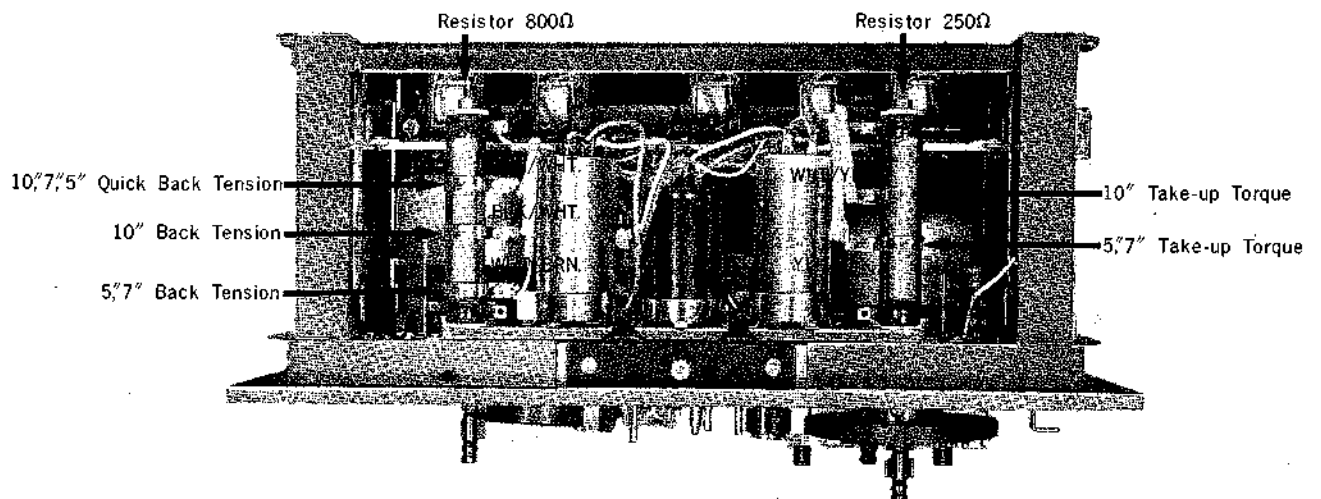

Fig. 7 Top View
- (c) When the Reel Selector is switched to and from 5,7 and 10-1/2" positions, specification of the Take-Up Torque and Hold Back Tension is shown on the following chart. Adjust each tension by re-positioning the Sliders of the two Resistors shown in Fig. 7.